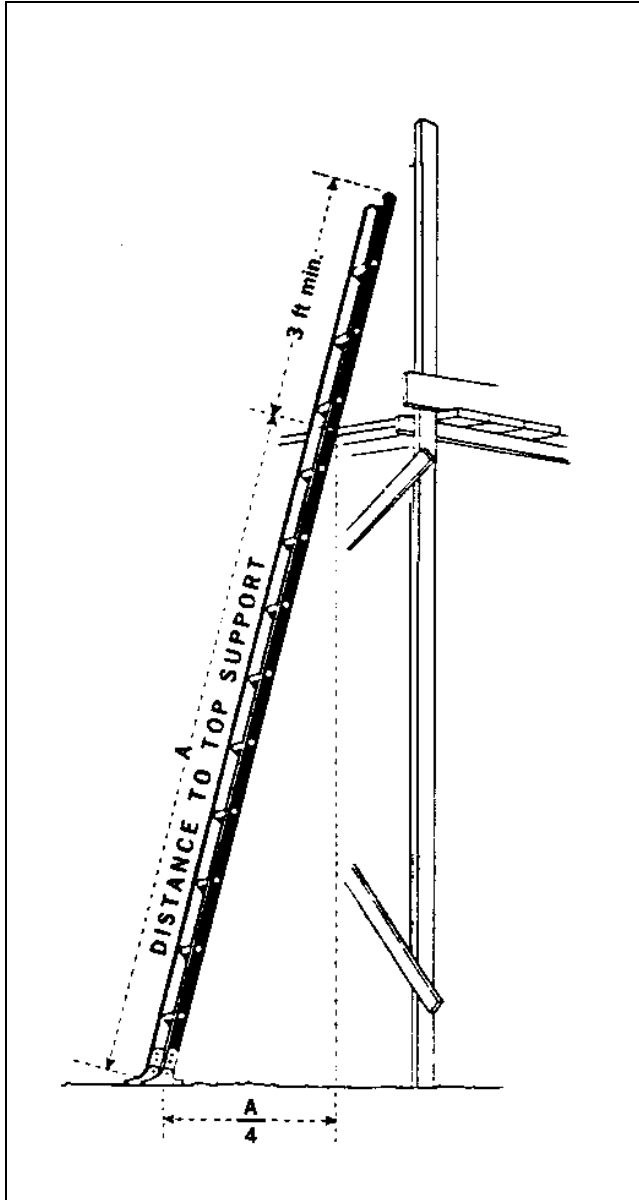

Figure 1.
- The base should be spaced 1 foot away for every 4 feet it reaches up (see Figure 1).